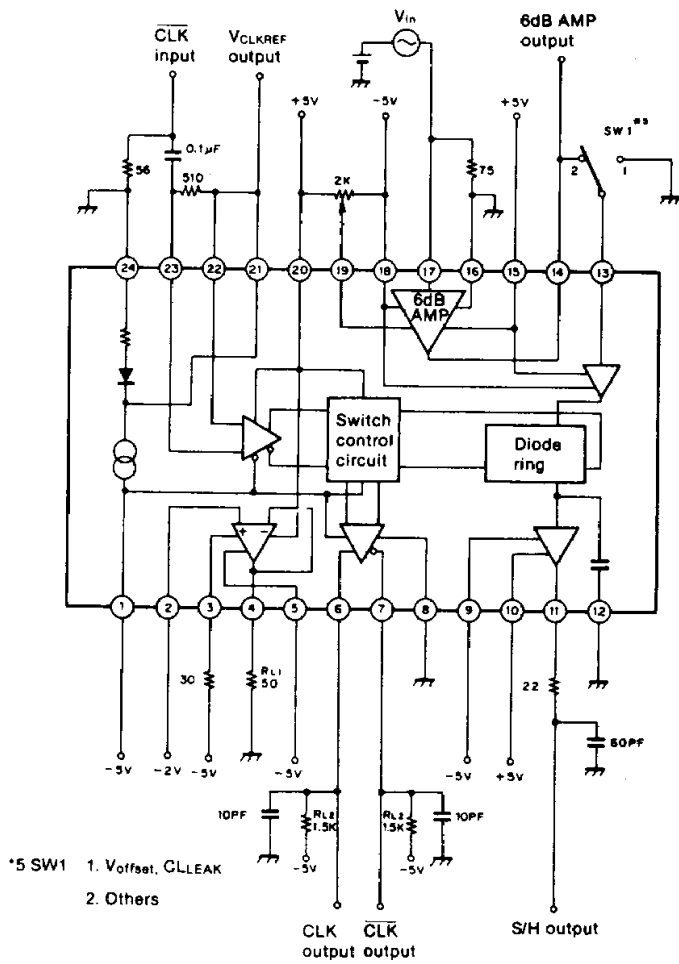

Fig. 3
S/H section (see Fig. 3)
(R_{LI} = 50Ω. see Fig. 3)
6dB amp section (see Fig. 3)
CLK OUT section (see Fig. 3)
-2V_{ref} amp section (see Fig. 3)